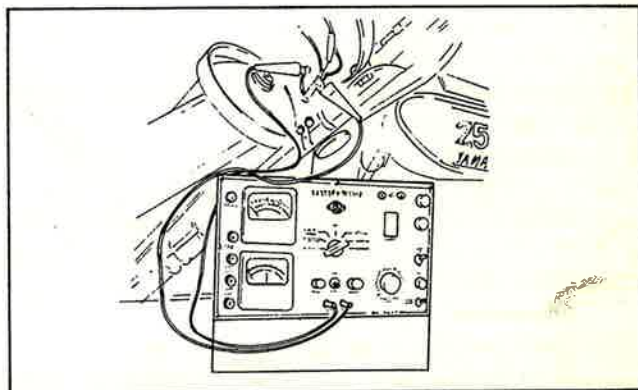

Fig. 6-7-1
- Connect positive (+) test lead to yellow connection and negative (-) test lead to a good ground. (Fig. 6-7-1)